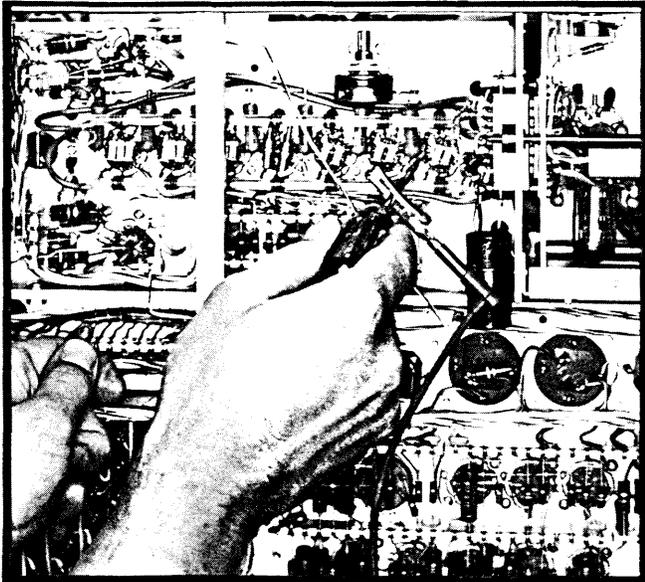

Fig. 6-12. Elevating cathodes of V1014 by supplying +100 V to R1013. Be very careful to avoid grounding +100 V supply.
(1) To isolate an unbalanced condition in the Delay Line Driver stage, attach a clip lead between the +100-volt supply, and to a small screwdriver shaft. Then, starting with V1014 and progressing through V1074, touch the screwdriver tip to pins 3 and 8 (cathodes) of each tube, see Fig. 6-12. Note the amount and direction of trace shift at each tube. This cuts off the tube as the positive voltage is applied to its cathode, and shows the effect on system balance of each tube. Replace any tubes that cause excessive trace shift, and recheck the stage.